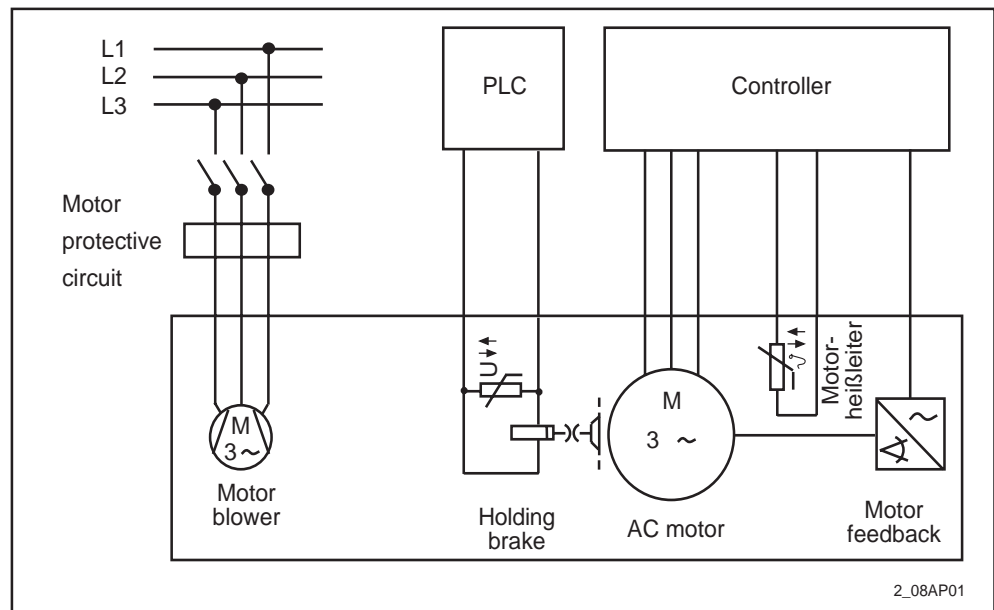

Fig. 2.8: Schematic main spindle motor diagram
*Terminal diagram* Figure 2.8 is a schematic diagram. It is the checklist for all the electrical connections needed to operate the 2AD motor.